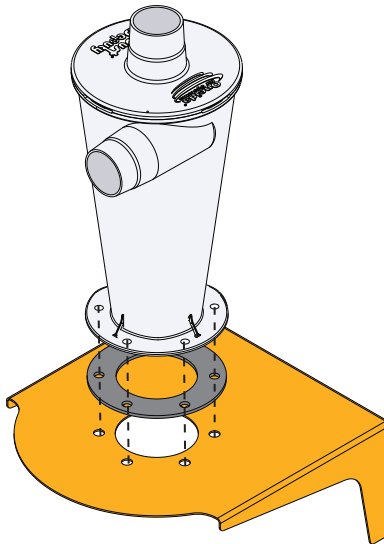

FIG. 8a
Place a Gasket (B) onto the Wall Bracket (F) and place the Cyclone (A) on top of the Gasket, then align all of the corresponding mounting holes [FIG 8a].